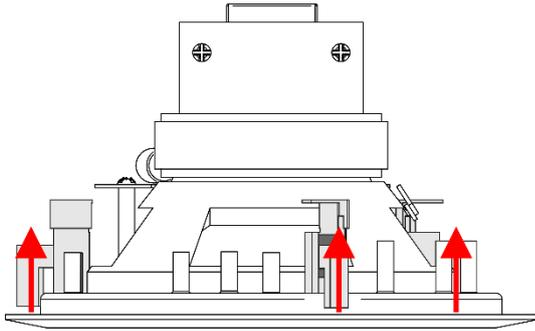

Fig. 05
- 07) Remove the **grill (03)**.
09) Lift the **mounting clamps (04)** and rotate them clockwise as shown on Fig. 05 and 06.